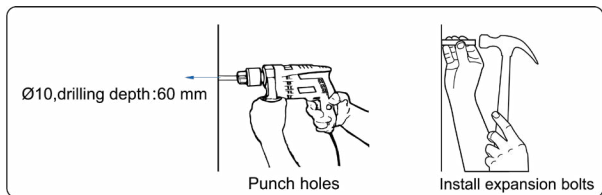

Figure 4.12 Punch holes and install expansion (unit: mm)
Step 4 Drill holes using a hammer drill and install expansion bolts, as shown in **Figure 4.12**.